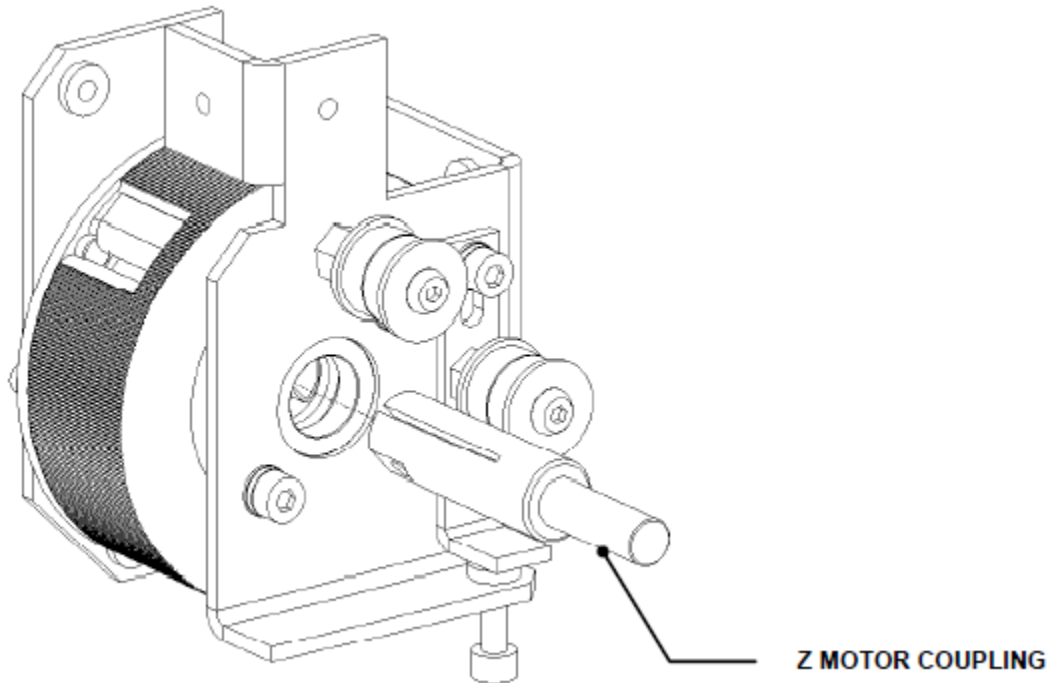

Figure Z-24: Spring Housing Assembly
The spring housing assembly is shown in Figure Z-24.
1. Remove the coupling (Figure Z-24).